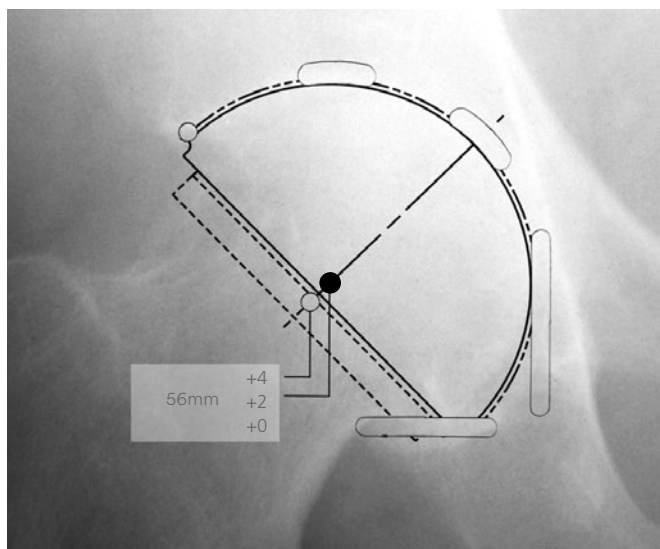

Figure 2
Acetabular sizing determinations are made using the A/P radiograph of the hip. Determine the optimal position for the acetabular component and estimate the size using the PINNACLE™ Acetabular Cup System template overlays. The acetabular teardrop can be referenced as the inferomedial margin of the acetabular reconstruction. The goal in cementless acetabular fixation is to optimize position and bone contact. Once this is determined, mark the intended center of rotation of the bearing surface on the A/P radiograph. (Figure 2)
- A neck resection guide that can be used with fluoroscopy (as shown in Figure 2) is available to help position the neck resection from the anterior side of the femur. (Cat. Nos. 2010-03-100 and 2010-03-105 for left and right hips, respectively).